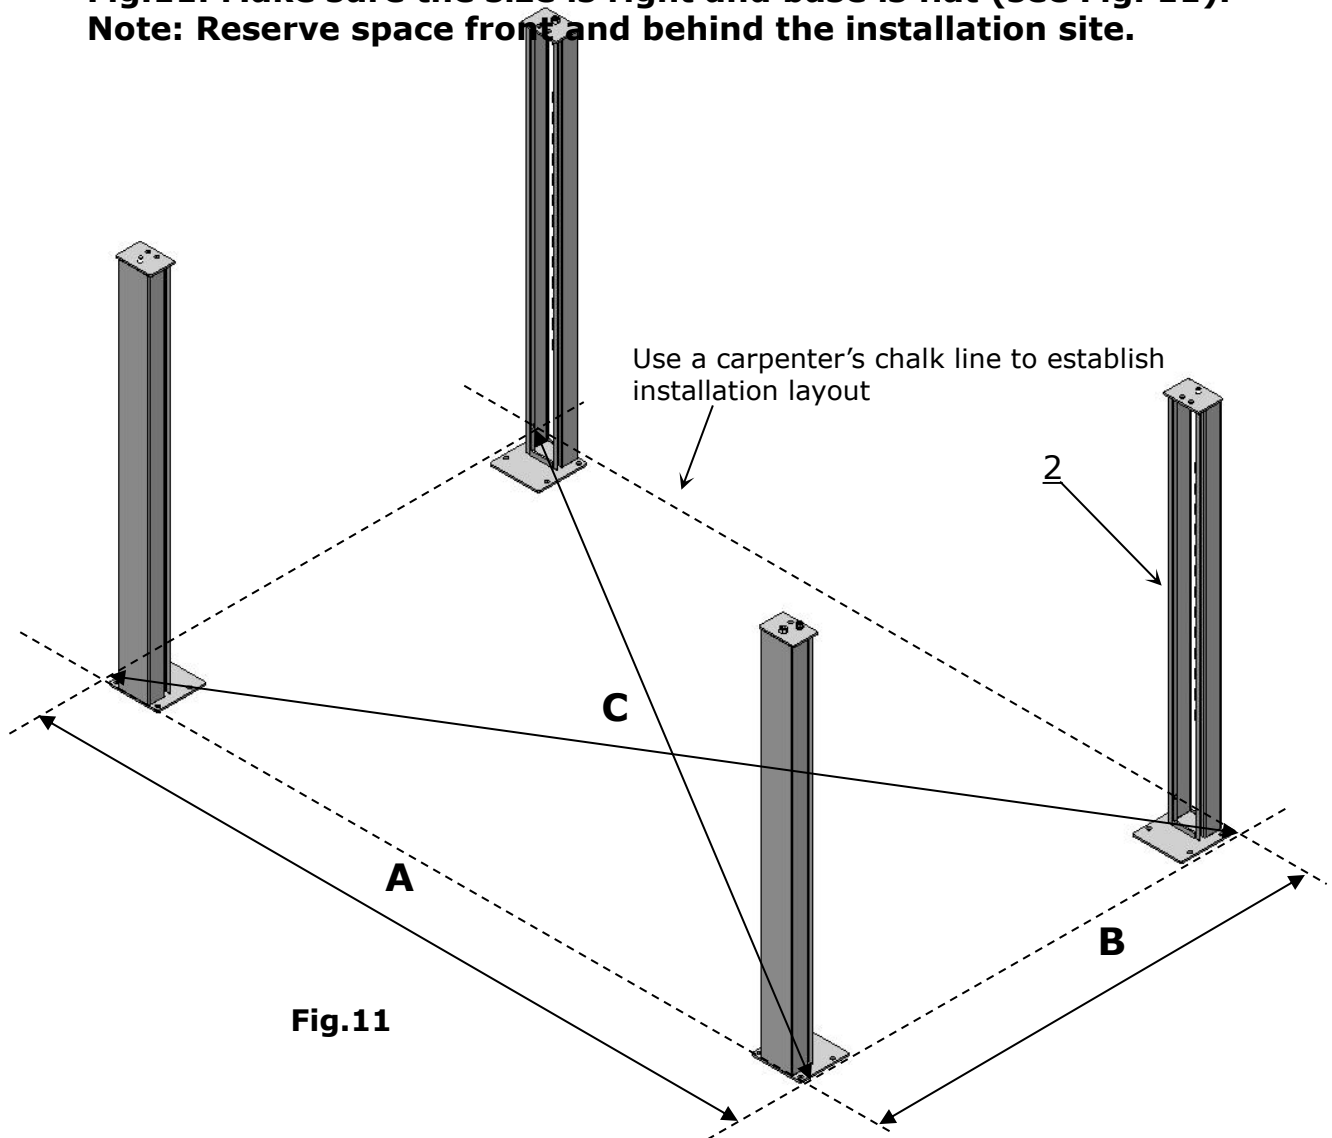

Fig. 9
6. Open the carton of parts and check the parts according to the parts box list (See Fig. 9).